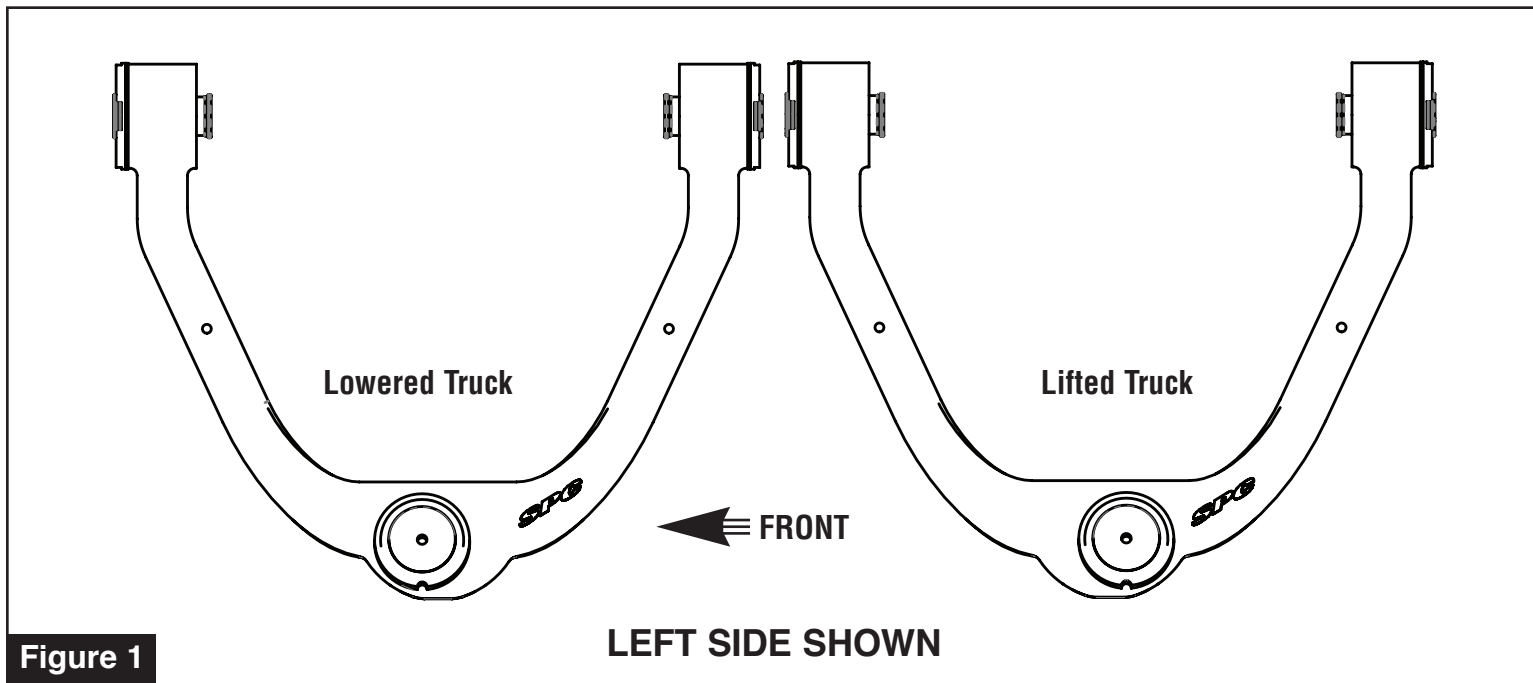

Figure 1
6. SPC 86470 control arms have a fixed 2° of caster built in. For lifted trucks, arms should be installed so ball joint is offset towards rear of truck. For lowered trucks, arms should be installed so ball joint is offset towards front of truck as shown in **Figure 1**.